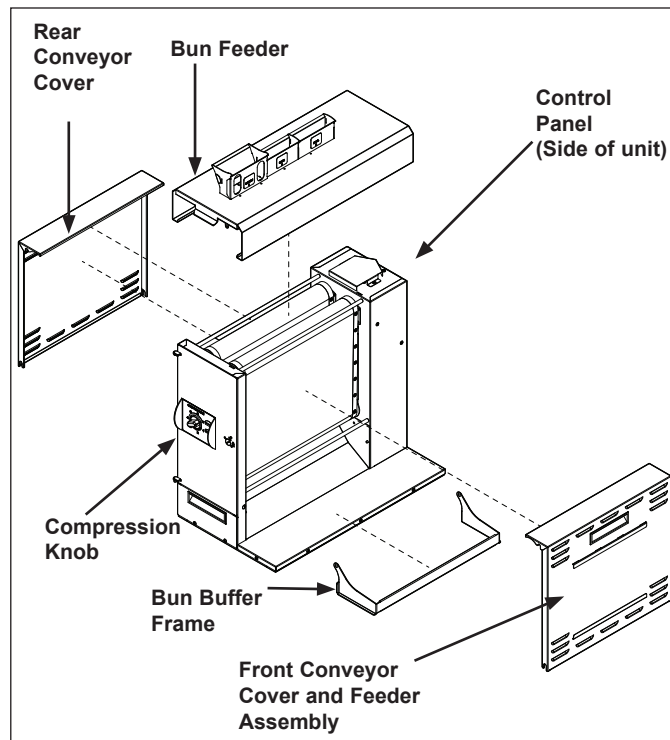

Figure 1. HEBT-3V Components
2. Attach the Bun Feeder, Bun Buffer Frame, and Crown\Heel Separator accessories (Figure 1.)